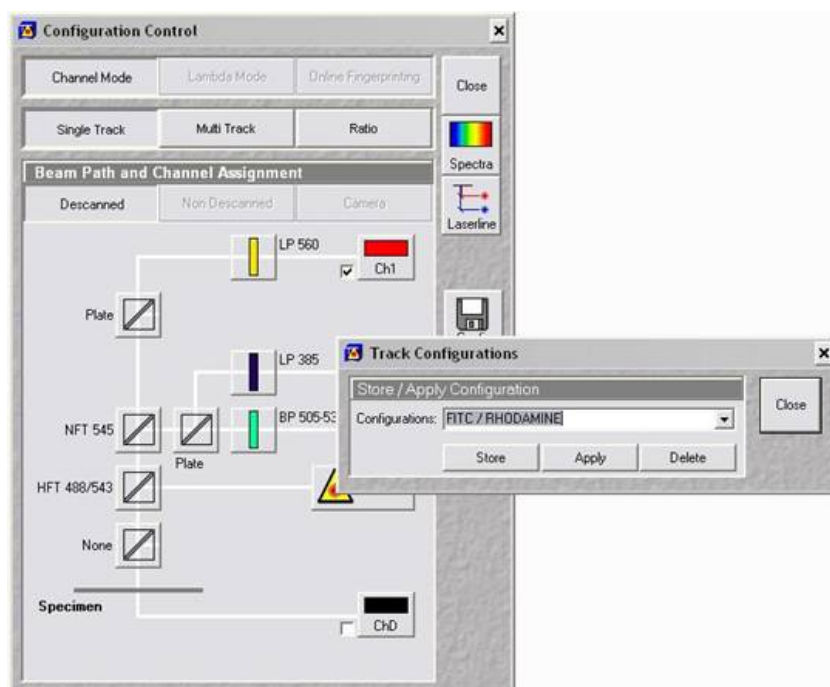

Figure 2) Selecting Your Imaging Configuration
1. A filter configuration for the particular fluorophores you are using can be loaded via the "Configuration Control" window. Open it by selecting the **Acquire>Config** submenu. Refer to Fig 2.